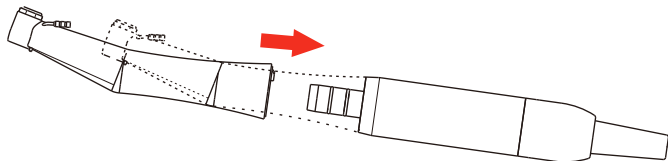

Fig. 6
4.2.6 Handpiece connection(Fig. 6)